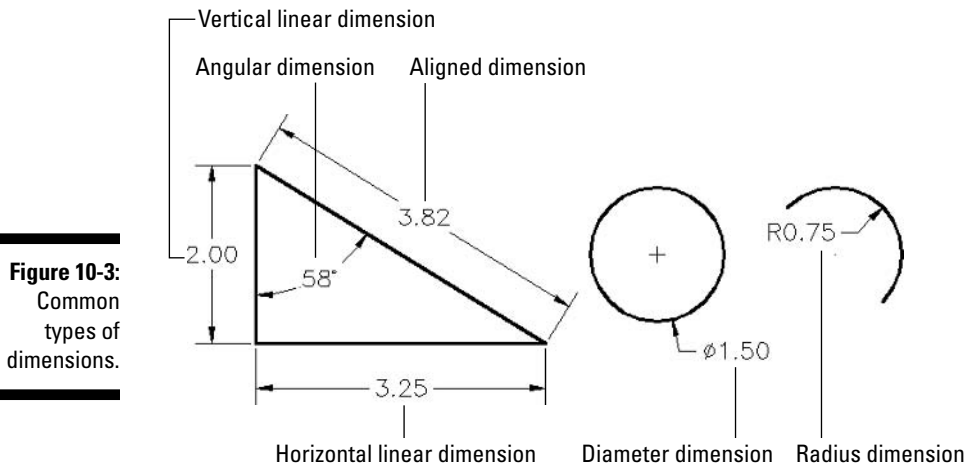

Figure 10-3:
AutoCAD LT provides several types of dimensions and commands for drawing them. Figure 10-3 shows the most common types, and the following list describes them:
- ✔ **Radial dimensions:** A *radius* dimension calls out the radius of a circle or arc, and a *diameter* dimension calls out the diameter of a circle or arc. You can position the dimension text inside or outside the curve, as shown in Figure 10-3. If you position the text outside the curve, AutoCAD LT by default draws a little cross at the center of the circle or arc.